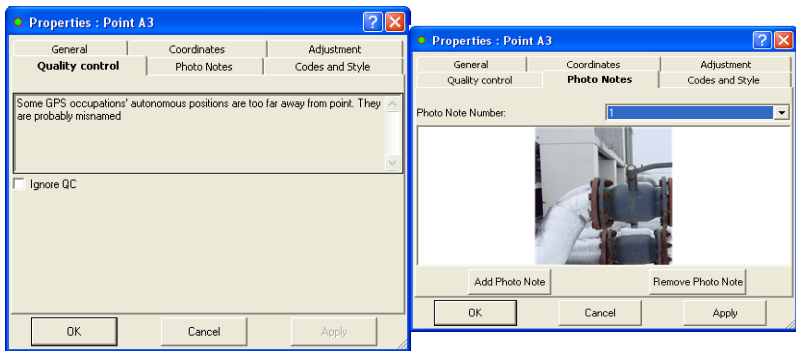

Figure 5-111. Quality Control and Photo Notes Properties
- View the *Quality Control* tab that contains informational text on selected points (marked in red on the views) that did not pass some of the quality control checks (Figure 5-111 on page 5-77). To turn off the feature that marks a point red when it fails some quality control tests, select the *Ignore QC* check box.
- View the *Photo Notes* tab (Figure 5-111 on page 5-77) that displays the image(s) per the point. It is possible to add image(s) for the point.